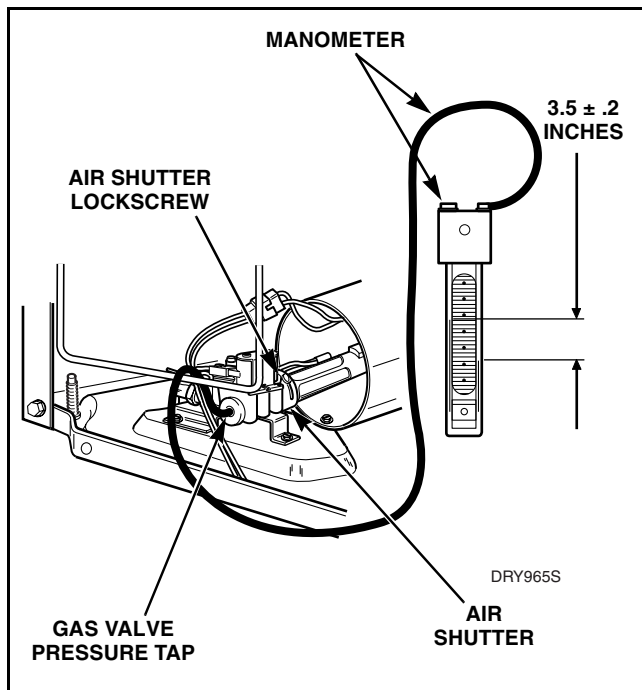

Figure 50
- (2) Connect a “U” tube manometer (or similar pressure gauge) to the pressure tap. Refer to *Figure 50*.
- (3) Start dryer, pressure should be $3.5 \pm .2$ inches ($8.89 \pm .508$ cm). Refer to *Figure 50*.
- (1) Loosen air shutter lock screw. Refer to *Figure 50*.
- (2) Turn air shutter to the right or left as necessary to obtain proper flame intensity. Refer to *Figure 50*.
- (3) After air shutter is adjusted for proper flame, tighten air shutter lock screw firmly.